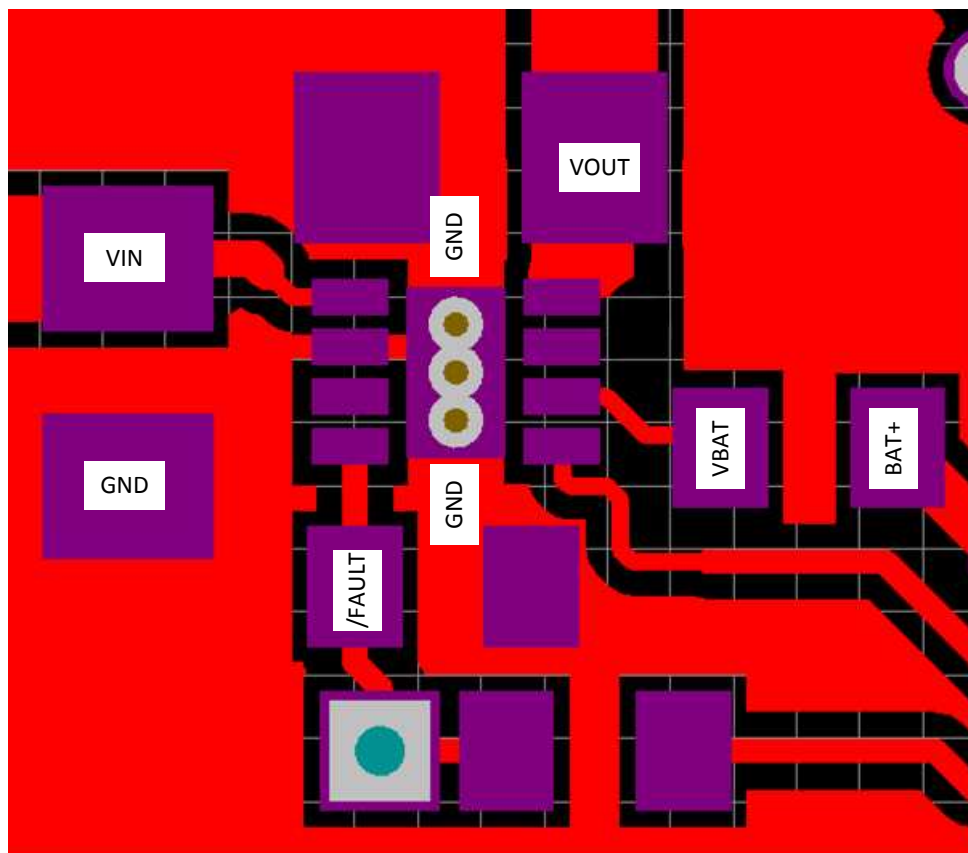

Figure 19. Layout Example Recommendation
- This device is a protection device and is meant to protect down-stream circuitry from hazardous voltages. Potentially, high voltages may be applied to this device. It has to be ensured that the edge-to-edge clearances of PCB traces satisfy the design rules for the maximum voltages expected to be seen in the system. See Figure 19.